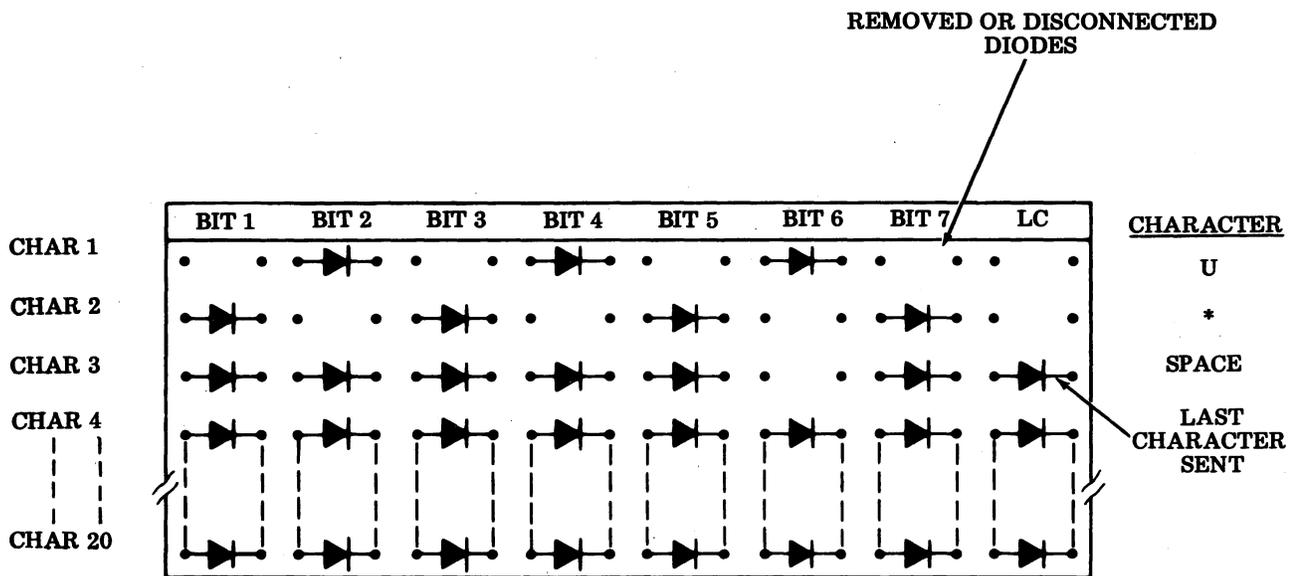

Fig. 4—Programming Example
3.04 Leave diode connected in the right-hand row (LC) for last character sent, cut LC diodes for all previous characters programmed (Fig. 4).